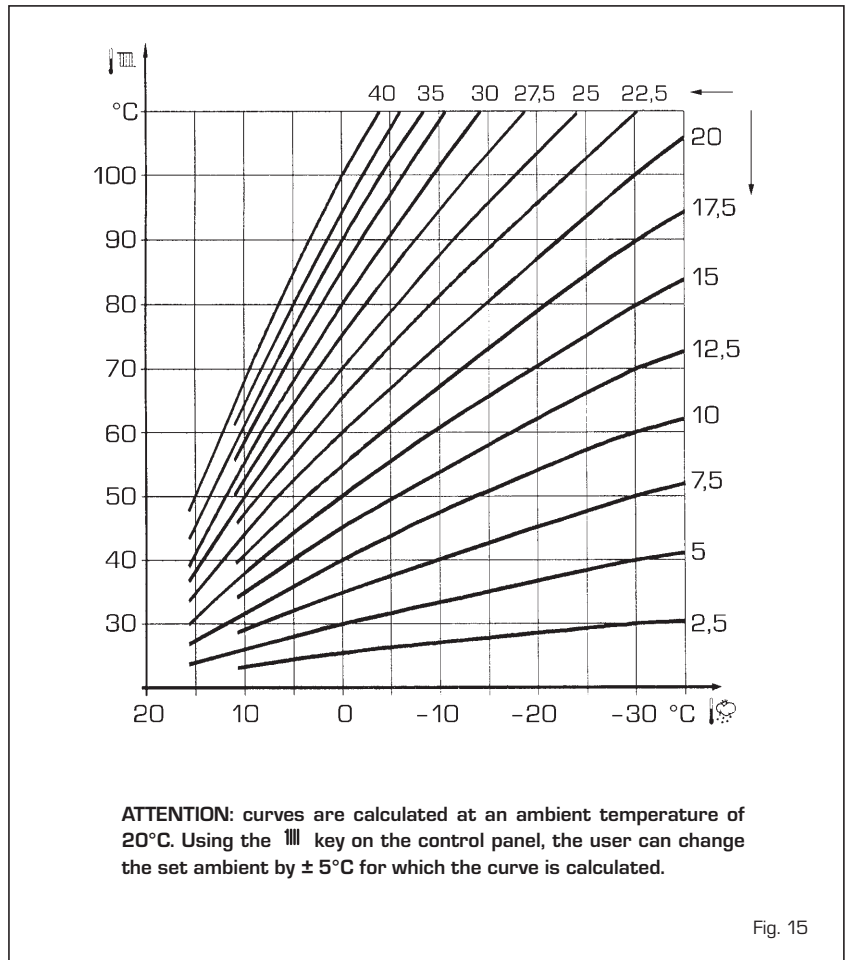

Fig. 15
3.4 EXTERNAL SENSOR (fig. 15)
Increasing the steepness of the curves of fig. 15 will increase the output temperature as the external temperature decreases.